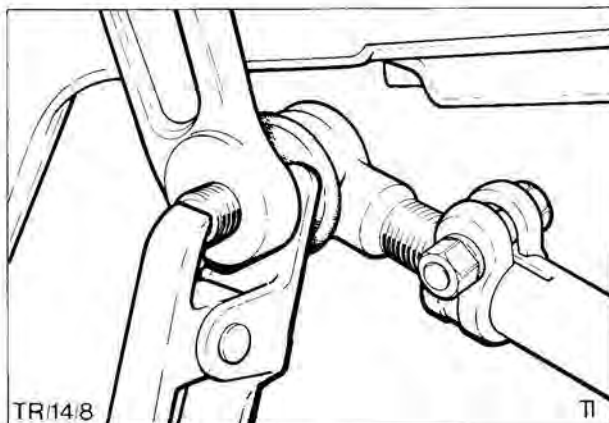

Fig. 8. Separating drag link and cranked arm joint using tool 13 006
4. Separate drag link and cranked arm joint by using ball joint separator tool 13 006, Fig. 8.